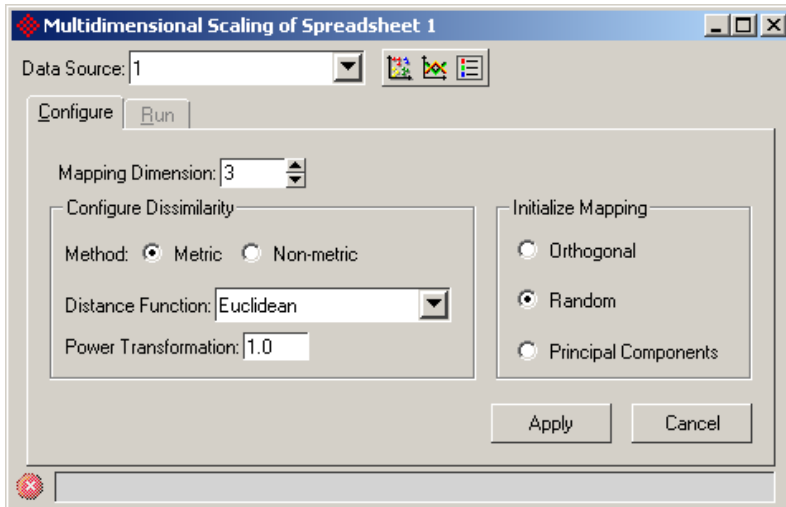

Figure 7. 8: Configuring the Configure tab in the Multidimensional Scaling dialog
- Open the *Multidimensional Scaling* dialog by selecting **Tools > Discover > Multidimensional Scaling...** from the Partek main window (Figure 7. 8)